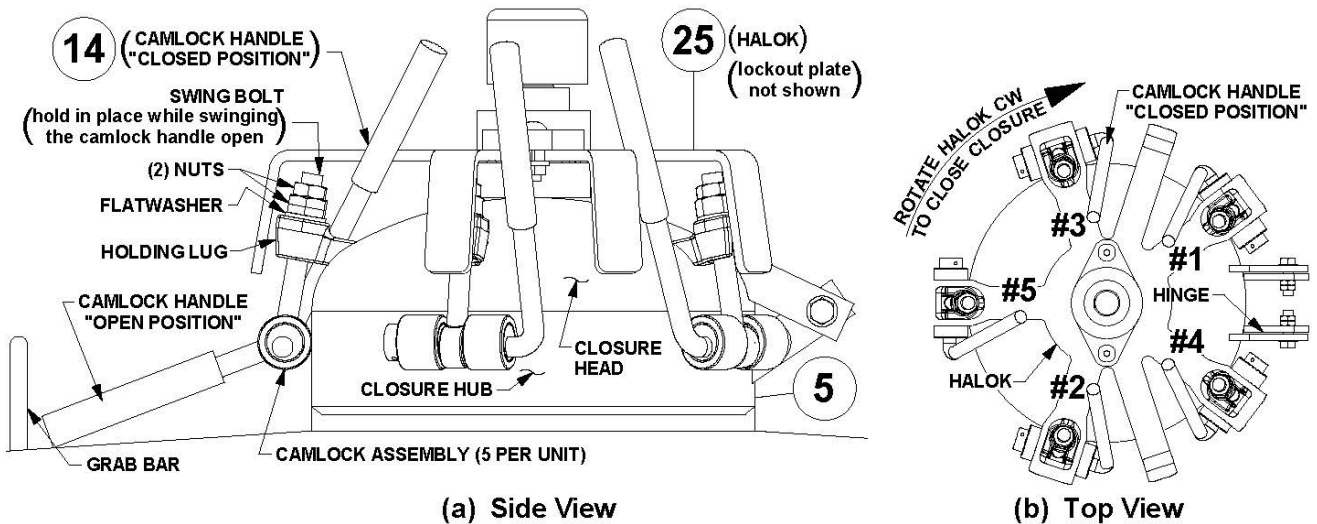

Figure 6.4.1 – Bulk Abrasive Blaster Closure Assembly
6.4 Closure Assembly Closing Procedure (See Figure 6.4.1 and 6.4.2)
- 6.4.3. Each time the closure assembly is opened all the camlock assemblies and hinge assemblies must be inspected for damage, including but not limited to, corrosion, cracks, and deformations. Make sure all the swing bolts, nuts, washers, cams, spring pins, and handles are in place (See Drawing 9.3(a)). Inspect the threads of each swing bolt and (2) nuts for corrosion or wear. Each camlock assembly and hinge must be tested for ease of operation. Any camlock, swing bolt, nut, or hinge that show signs of damage, corrosion, wear, or does not swing freely must be repaired or replaced *before* re-pressurizing the blast vessel. The camlock handles must be installed into the cam lugs as shown in Figure 6.4.1(b) so there is no interference with closure head handle or hinges and to insure proper operation of the closure Halok® (#25). The torque on the camlock assembly nuts must be properly adjusted. See Sections 8.4 and 8.5 for closure assembly maintenance instructions and adjustment procedures.
- 6.4.4. Swing all the swing bolts into position within the holding lug. Be sure each swing bolt has the required (2) nuts and flat washer, and they are in good condition. See Figure 6.4.1.
- 6.4.5. After all the swing bolts are in position within the holding lugs rotate the Halok® (#25) clockwise to allow access to the camlock handles (#14). See Figure 6.4.1.
- 6.4.6. In the numbered sequence shown in Figure 6.4.1(b), tighten each swing bolt by swinging each of the five camlock handles into the “closed position” against the closure head. If necessary a 1/2” pipe 12 inches long can be slipped over the end of the camlock handle to increase leverage.